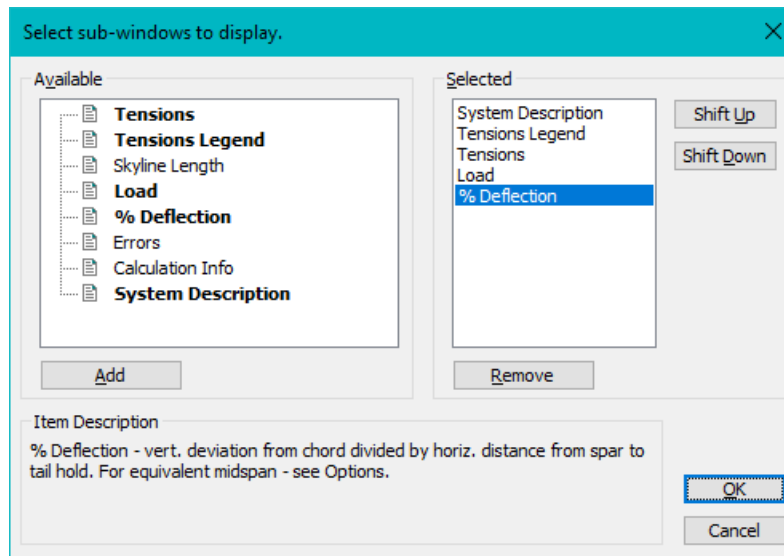

Figure 12-23: The Select sub-windows to display dialog box.
9. In the Sub-Windows portion of the dialog box press Select to open the dialog box shown below in Figure 12-23